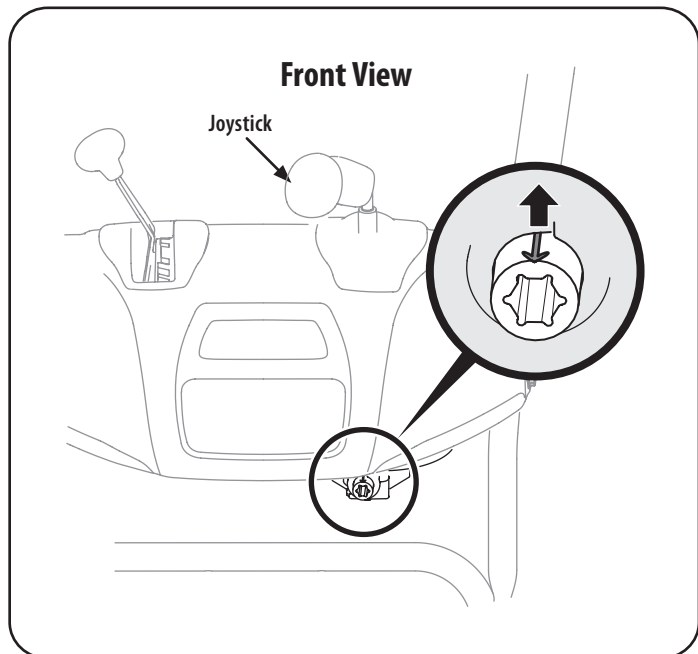

Figure 7
6. Rotate the joystick to the one o'clock position so the silver indicator arrow on the input shaft below the control panel points upward. See Figure 7.